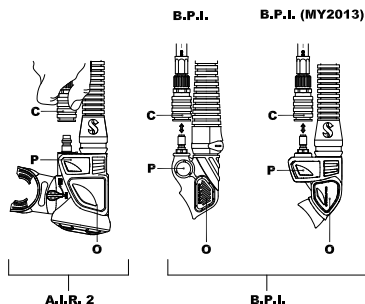

fig. 6
To attach the Quick Disconnect Coupling (fig. 6 - C):
To inflate the BC, press the Power Inflation Valve Button (fig. 6-P). Air should enter the BC. For better control during inflation use short bursts of air by repeatedly pressing and releasing the PIV button.
2. With the same breath, continue to exhale while deeply depressing the Oral Inflation Valve Button (fig. 6 - O).